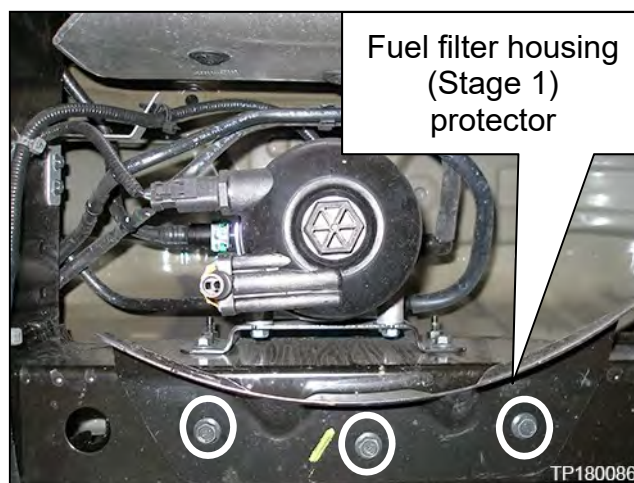

Figure 7
- Fuel filter housing (Stage 1) protector is held on with 3 bolts, circled in Figure 7.